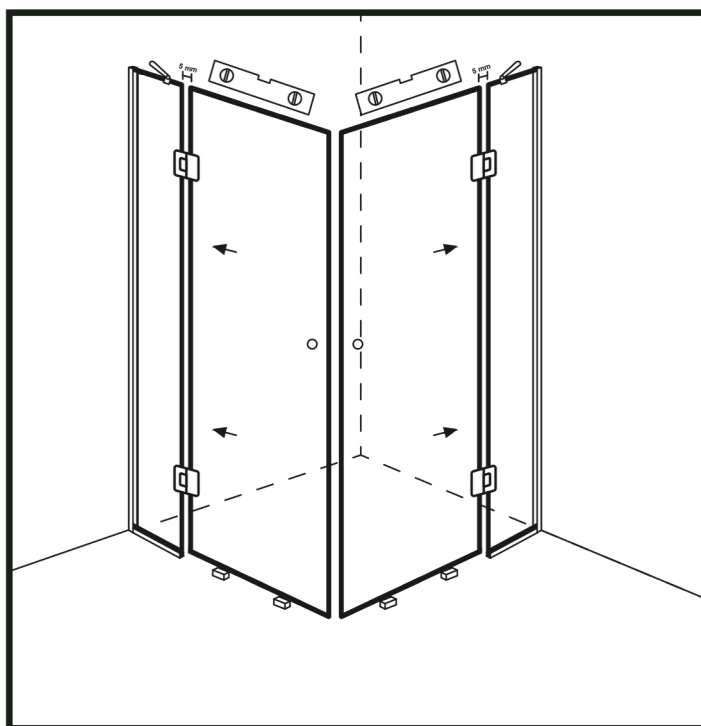

Figure 10
35. Place wooden blocks on the floor, maximum thickness 1 cm, on which you can support the door glass panel. (Figure 10)